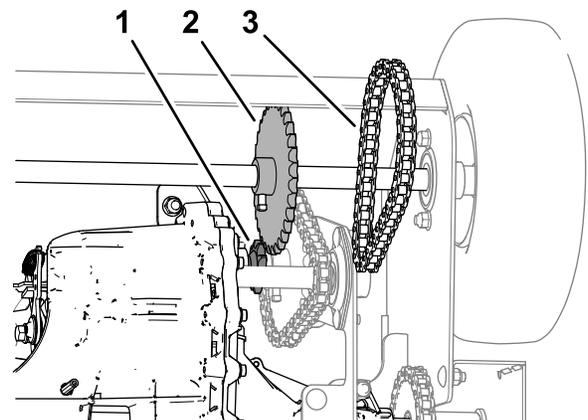

Figure 53
3. Remove and retain the connecting link from the wheel-drive-chain, and remove the chain from the transaxle sprocket and the wheel-drive sprocket (Figure 53).